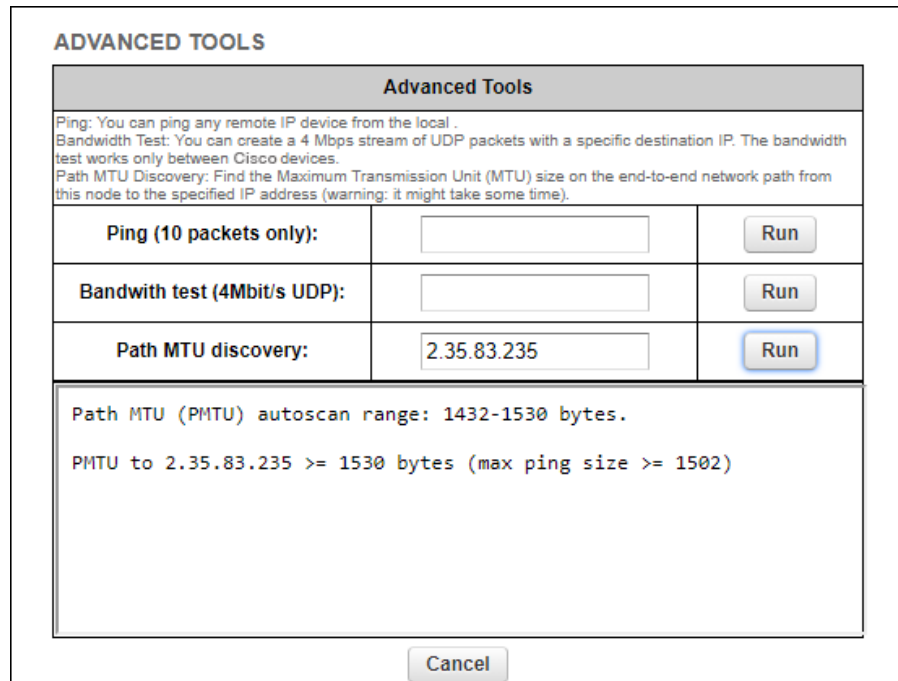

Figure 31. Advanced Tools window (Path MTU test tool)
2. Enter the IP address of the second unit in the **Path MTU discovery** field (Figure 31 (page 92)).